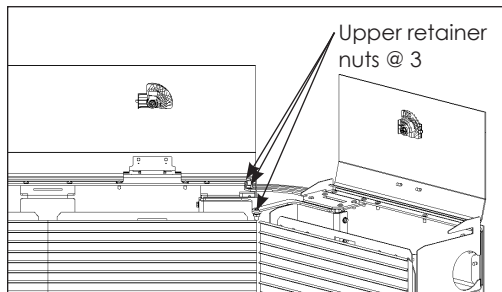
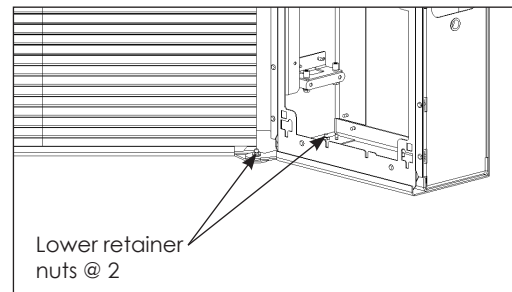

Figure 26: Secure Upper Retainer Hardware
Figure 27: Secure Lower Retainer Hardware
4. Secure the retainer nuts in the upper and lower support brackets into the left vertical of the wing to keep the wing from rotating. The required torque is 20 ft-lbs. Refer to **Figure 26** and **Figure 27**.